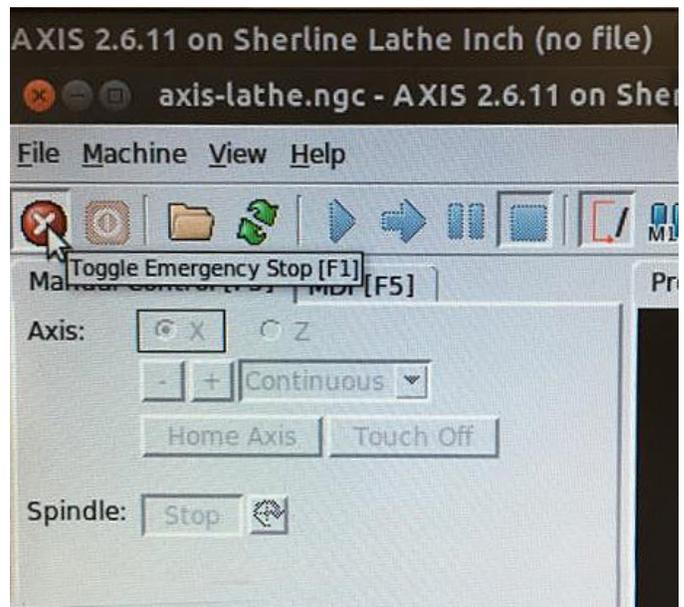

FIGURE 5
4. Click on the "Toggle Emergency Stop" icon (See Figure 5).